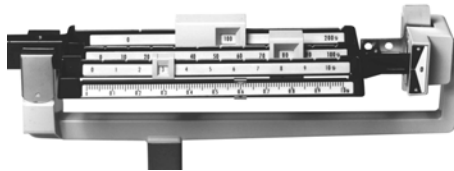

Figure 9. Example of 183.6 Gram Reading.
4. Slide the 1 gram poise to the position which brings the pointer to zero. The weight of the specimen is the sum of values of all poise positions, read directly from the graduated beams. See Figure 9.